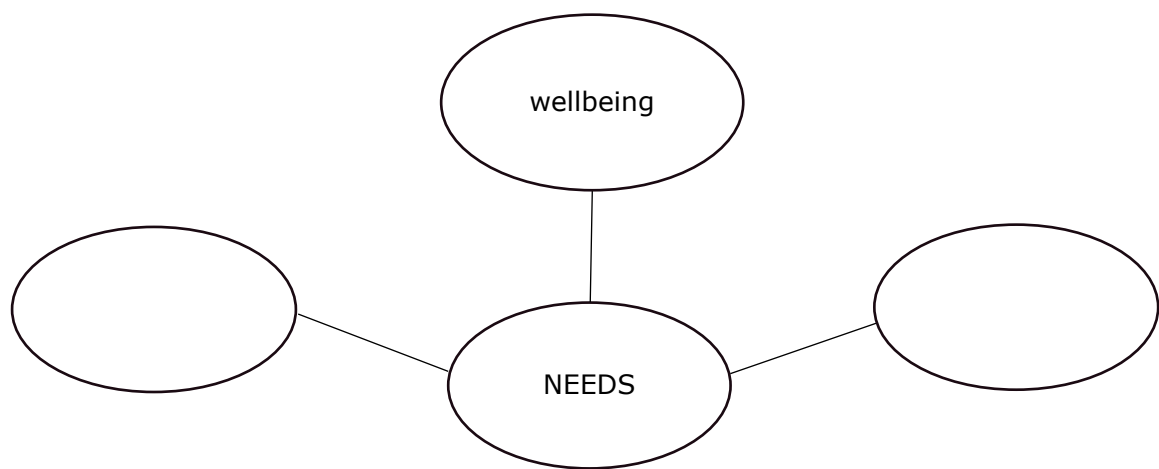

Figure 1
1. Figure 1 shows a web diagram that will help you explore the context of the given situation.
- a. Complete the web-diagram in Figure 1 by identifying **TWO** more needs which are stated in the situation. An example has already been given. (1)